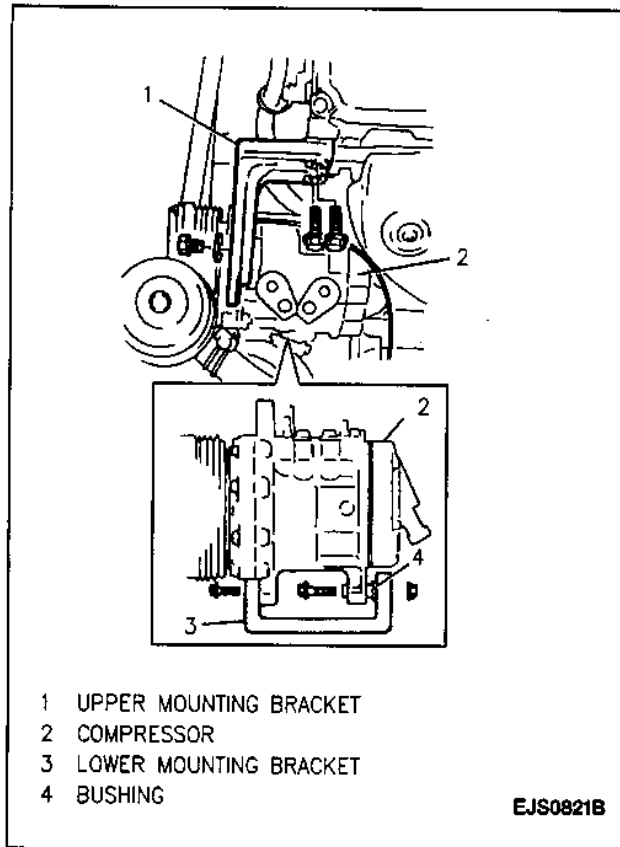

Figure 19—Compressor Mounting
6. One upper bracket-to-compressor mounting bolt (Figure 19).
7. Two lower bracket-to-compressor mounting bolts, while disengaging compressor drive belt from A/C compressor clutch pulley (Figure 19).